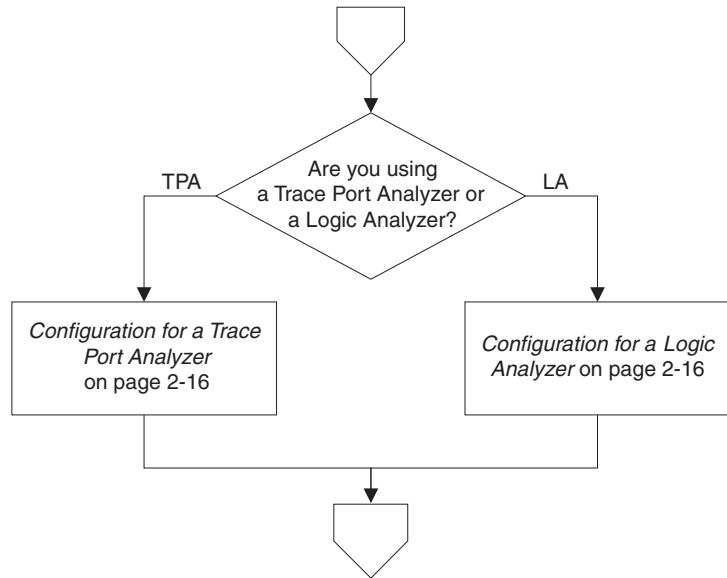

Figure 2-13 Hardware configuration procedures
7. You must choose the next step based on the hardware you are using, as shown in Figure 2-13 on page 2-16.